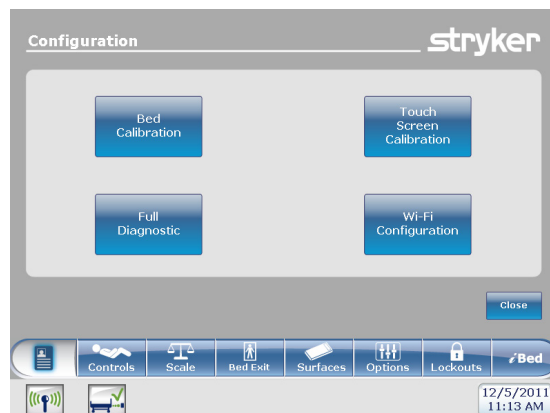

Figure 3: Configuration Screen Menu Items
The following items A, B, and C are configuration buttons available and displayed on the Configuration screen (Figure 3).
3. Press the Bed Calibration button on the Configuration Screen (refer to Figure 3).